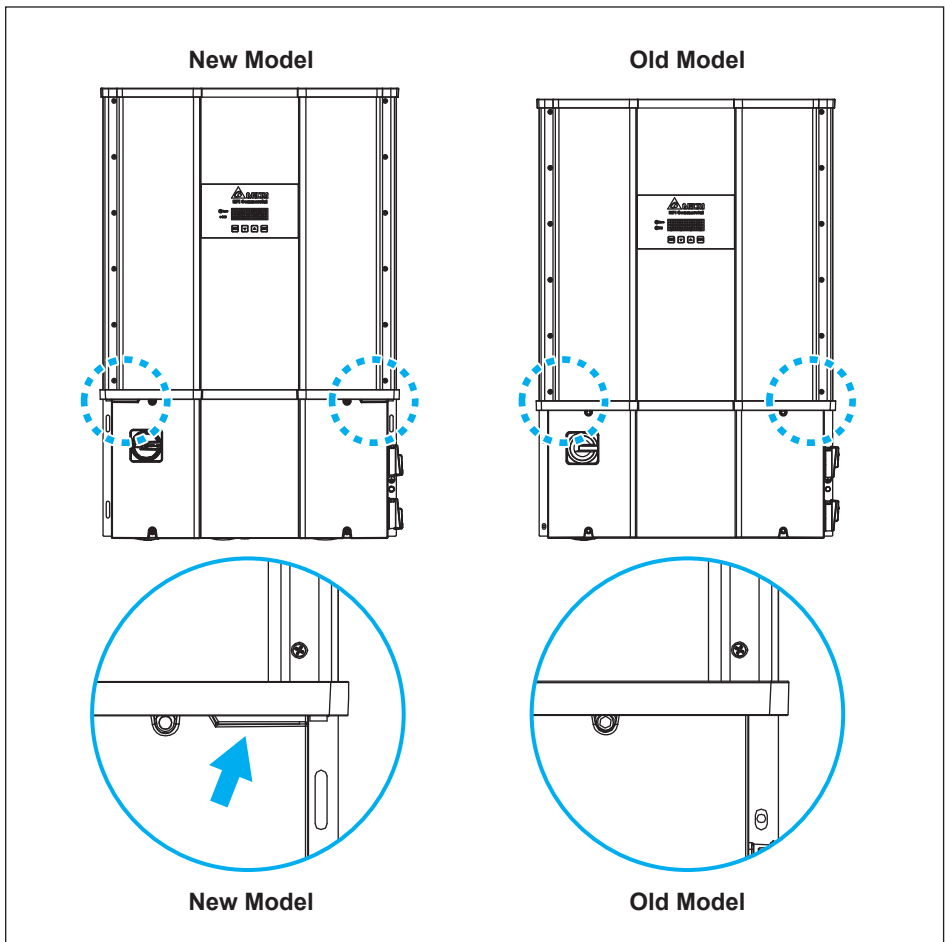
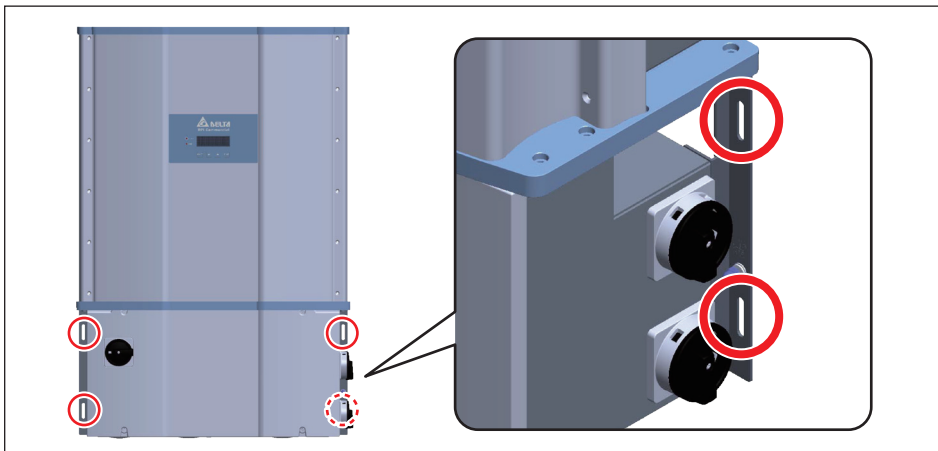

Figure 3-3: How to distinguish new/old models of M80/60U
Figure 3-15: Screw locations to secure inverter WB to wall-mounting bracket
Refer to **Figures 3-3** through **Figures 3-15**.
5. Secure the inverter by inserting and tightening four screws (item 6, **Figure 2-1**) as shown in **Figure 3-15**.
7. Secure the inverter by inserting and tightening four screws as shown in **Figure 3-15**.
Figure 3-3 shows how to distinguish new/old models of M80/60U.
After installing the unit on the bracket, secure the wiring box to the bracket with four screws per **Figure 3-15**. Tighten the screws to a torque of 40 lbf-in (4.5 N·m)